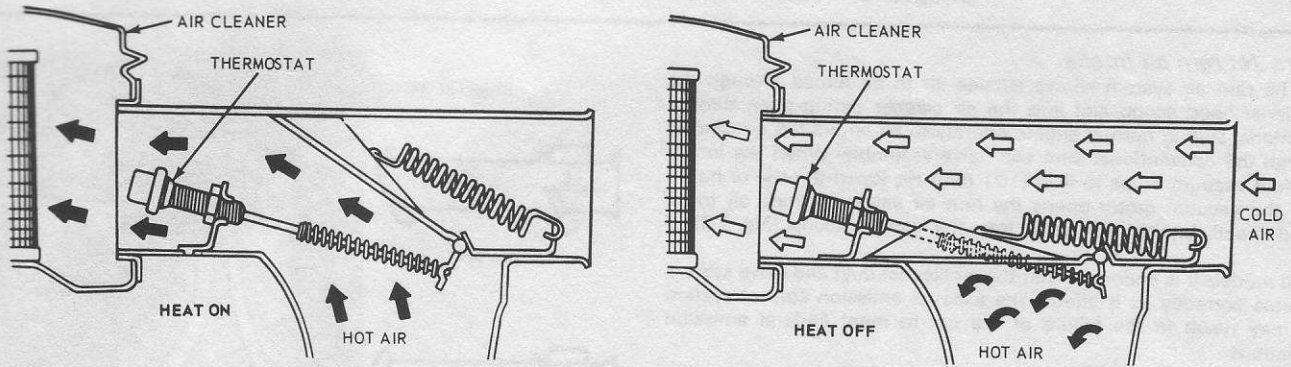

Fig. 3.1 Temperature-operated duct and valve assembly – operation (Sec. 3)
The temperature-operated system has a thermostatically controlled valve plate within the duct. When the engine is cold the thermostat maintains the valve plate in the raised position and air is drawn into the air cleaner via a shroud tube. This ensures more efficient fuel atomisation as the engine warms up. When the engine has reached its normal operating temperature the thermostat closes the plate valve and cool air is drawn into the air cleaner (see Fig 3.1).
- 1 With a cold engine and under-hood temperature of less than 100°F (37.8°C), the valve plate should be in the *Heat On* position (see Fig. 3.1).